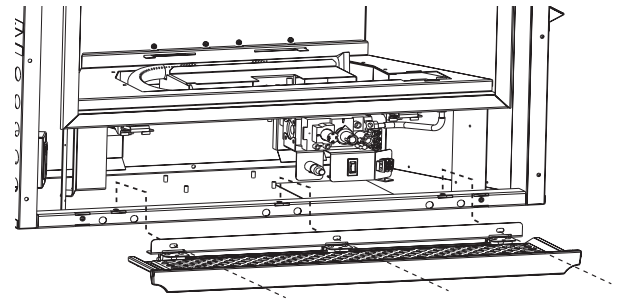

Figure 44. Install the Lower Grill / Control Door.
- Secure the hinges to the cabinet frame using the hex head screws provided in the hardware bag. Fig. 44.